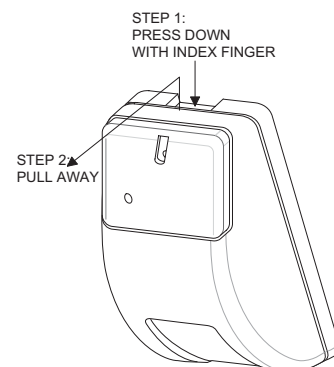

Figure 5. Opening the Sensor Housing
2. Open the sensor housing by pressing down on the top rear and pulling the front cover at the top (see Figure 5). Set the front cover aside